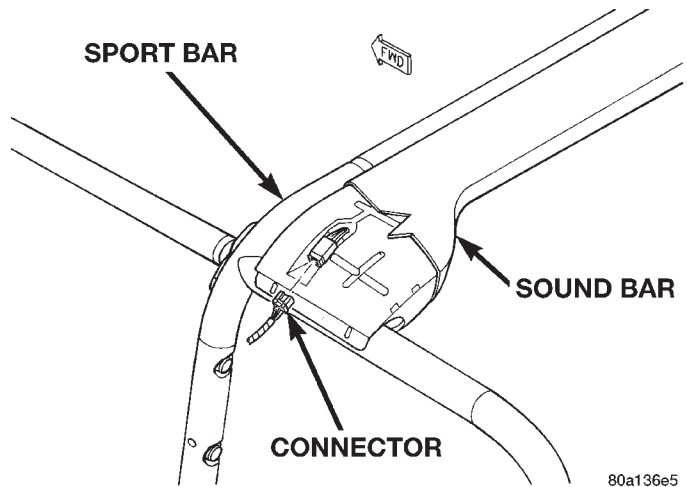

Fig. 7 Sound Bar Wire Harness Connector Remove/Install
(1) Disconnect and isolate the battery negative cable.
(2) If the vehicle is equipped with the optional hard top, remove the hard top from the vehicle. Refer to Hard Top in Group 23 - Body for the procedures.
(3) If the vehicle is equipped with the standard soft top, lower the soft top. Refer to Folding Down the Fabric Top in the Owner's Manual for the procedures.
(4) Release the hook and loop closure on each outboard end flap of the sound bar trim cover.
(5) Lift the left outboard end flap of the sound bar trim cover over the top of the sport bar far enough to access the wire harness connector (Fig. 7).